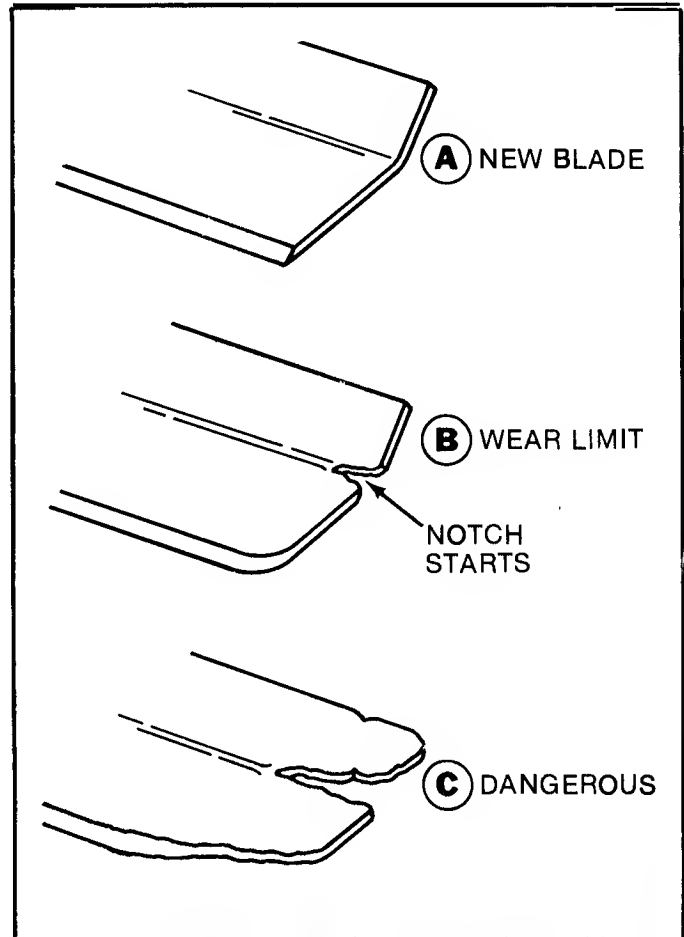

FIG. 10 -- BLADE WEAR PATTERNS
**REPLACE** blade if badly chipped, bent, out of balance or as soon as notch starts wearing in the tip between the flat surface and upturned lift as depicted in View B, Figure 10. This type wear pattern occurs more rapidly under sandy soil conditions. **CAUTION:** Never operate the mower with blade worn to the extent shown in View C as the tip could fly off causing personal injury or property damage.